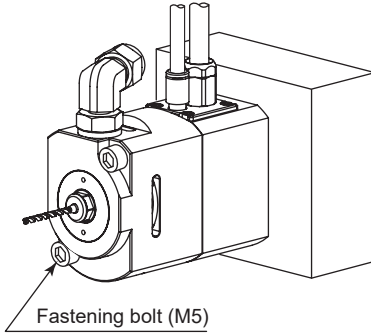

Fig. 28
- (1) Insert the spindle body housing (diameter  $\phi 31$  mm) section into the fixed base of the machine tool.
- (2) Secure the spindle through the mounting holes (2 locations) using the fastening bolts (M5). (Fig. 28)